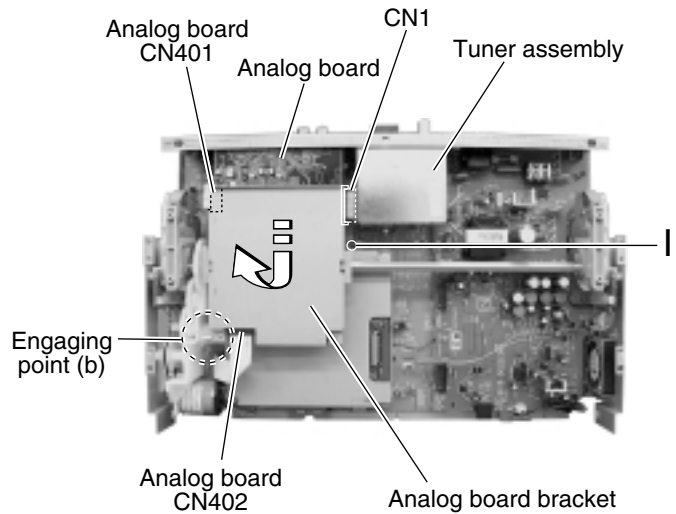

Fig.12
■ Removing the analog board (See Figs.12 to 14)
2. Remove the screw (I) that retains the analog board bracket from the top of the unit.
3. Remove the screw (J) and the screw (K) that retain the analog board from the rear panel of the unit.
5. Remove two screws (L) that attach the analog board to the analog board bracket.
■ Removing the tuner assembly (See Figs.12 and 13)
1. Remove the three screws (M) that retain the tuner assembly, from the rear panel of the unit.